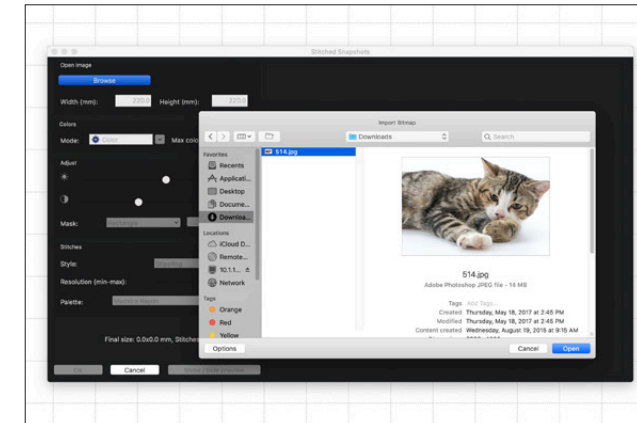

Figure 36
1. Click on the Stitch Snapshots wizard on the top left toolbar to get started and click Browse to find a photo that you want to convert to stitches. **See Figure 36.**